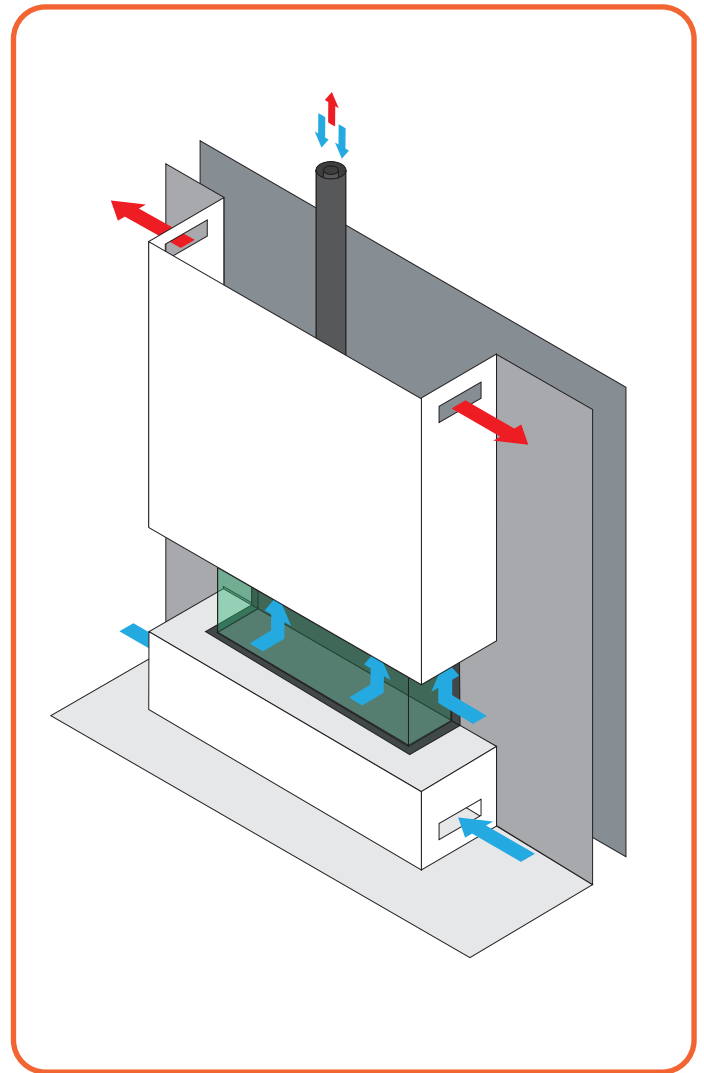

Figure 6.3 - Non combustible material enclosure
6.4.3 Assembly regulations with non-combustible materials (Figure 6.3)